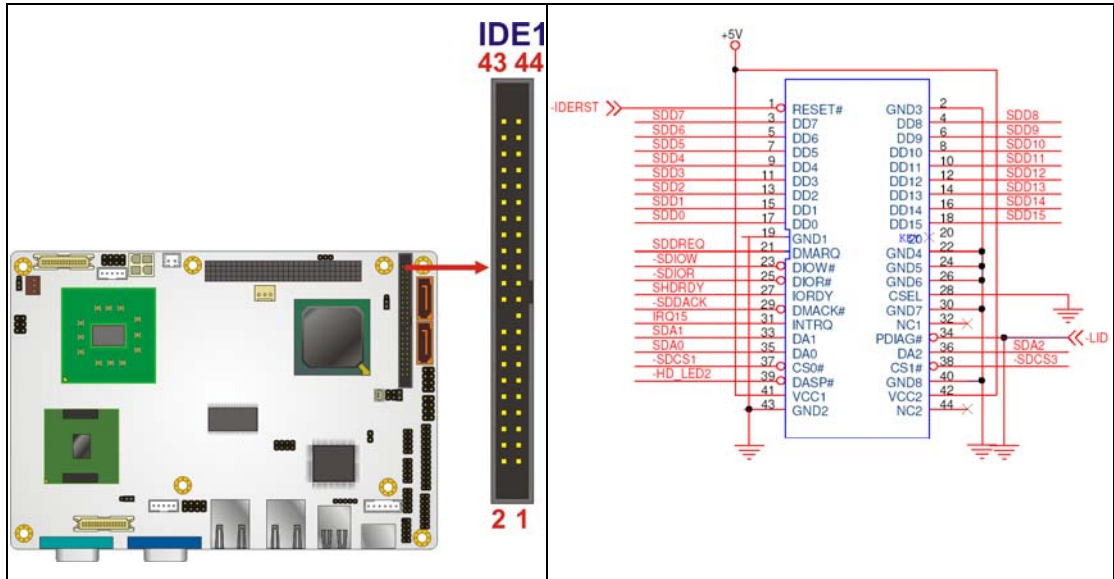

Figure 4-12: Secondary IDE Device Connector Locations
- CN Location: See Figure 4-12